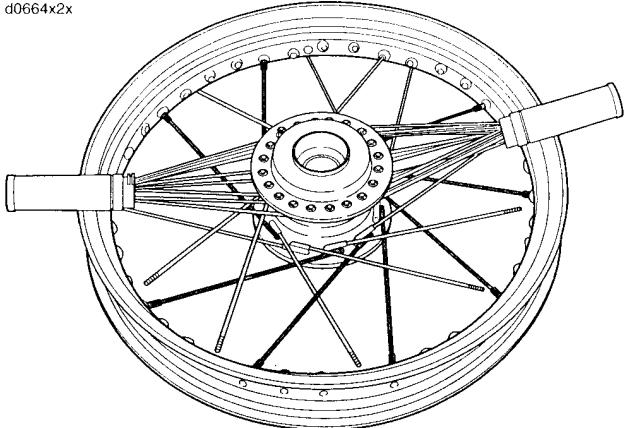

Figure 2-33. Completed Spokes-Bottom Flange Outer
- b. See Figure 2-33. Once you have completed lacing the bottom row of outer spokes (short head) double check for three empty holes in between each spoke.